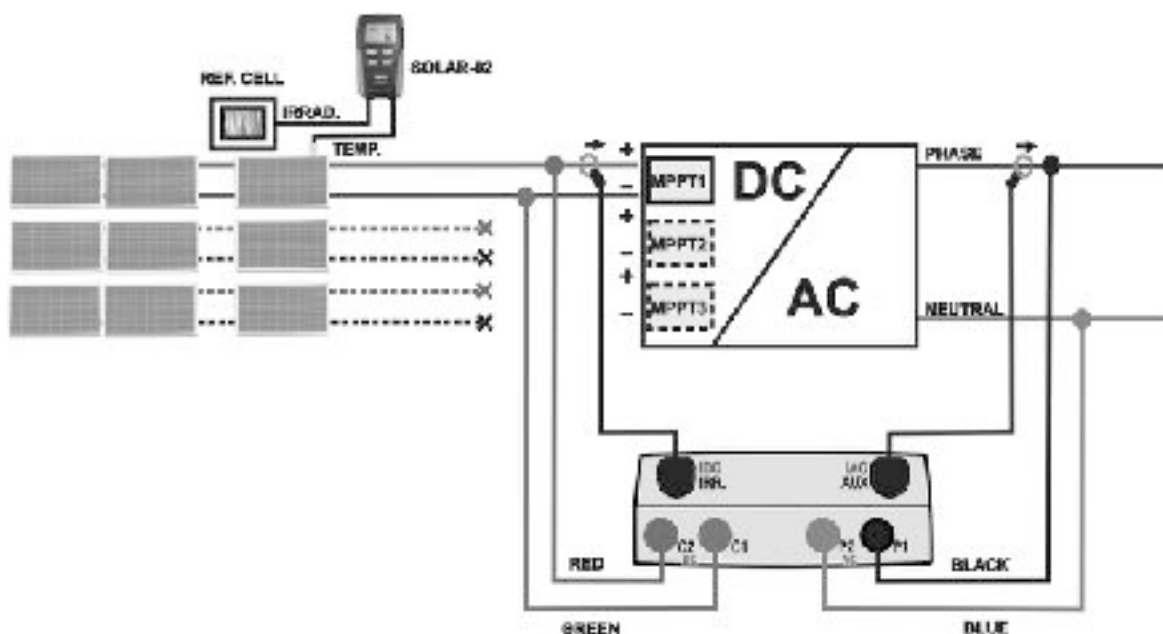

Fig. 4: Connection of meter for check on single phase PV installation
5. In case of inverters provided with more than one power tracker (MPPT), **only leave the string corresponding to the first MPPT connected**, as shown in Fig. 4. Then, it will be necessary to repeat the operations described below by only leaving the string corresponding to the second MPPT connected, then to the third, etc.
8. Connect the **C2** and **C1** inputs respectively to the positive and negative polarity of the output string. Connect the **P1** and **P2** inputs to the phase and neutral conductors respecting the colors as shown in Fig. 4
10. Connect the DC current clamp to the positive string output conductor **by respecting the direction of the arrow** on the clamp itself as indicated in Fig. 4. Position the DC clamp in point so far from the inverter and avoid that the jaws stay close to the negative conductor
11. Connect the AC current clamp to the Phase L1 conductor **by respecting the direction of the arrow** on the clamp itself as indicated in Fig. 4. Position the AC clamp as far as possible from the inverter and avoid that the jaws stay close to the neutral conductor. Connect the output of the clamp to the **IAC** input of the instrument